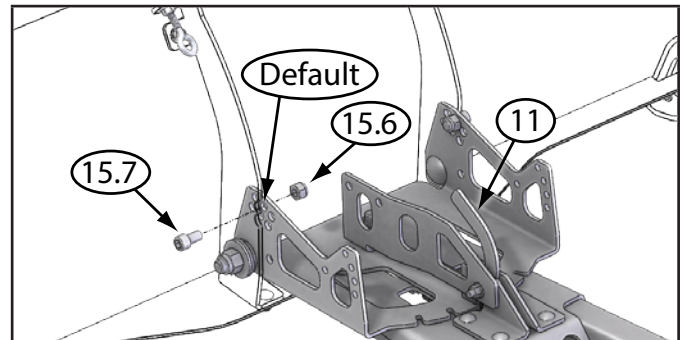

Figure 9 - Pitch Adjustment Bolt (spring not shown for clarity)
Figure 9 shows the default position.
8. With springs installed and pitch blade under tension, install ¾ in. (19.1 mm) hex socket head cap screw (15.7) using ⅜ in. (9.5 mm) Allen wrench or pliers; and 7/16 in. (11.1 mm) lock nut (15.6) into desired pitch position hole. As shown in Figure 9.